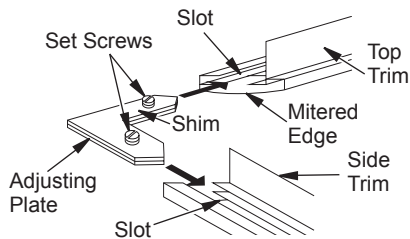

Figure 9 - Assembling Trim
3. Align shim under adjusting plate as shown in Figure 9.
4. Slide one end of adjusting plate/shim in slot on mitered edge of top trim (see Figure 9).
5. Slide other end of adjusting plate/shim in slot on mitered edge of side trim (see Figure 9).